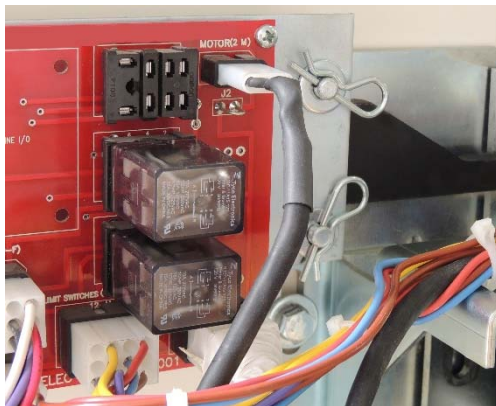
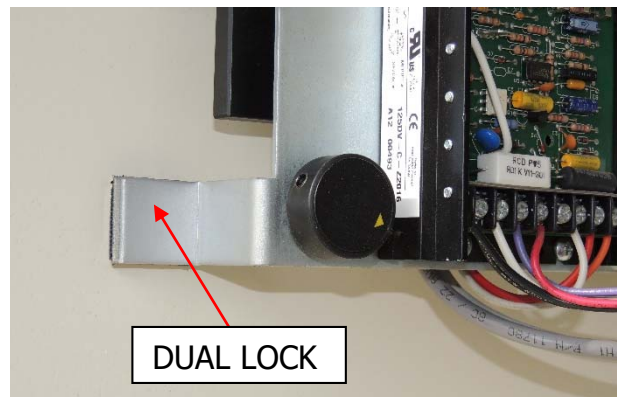

FIGURE 13
FIGURE 14
13. The **Logic Board** must be attached on the upper two pins located on the left hand side of the mechanism assembly. It is secured with the two hairpins located in the pin holes (Figure 13). The feet have **Dual Lock** attached and the protective covering must be removed and the feet can be pressed against the housing to secure the board. The dual lock should be allowed to fasten to the housing for twenty-four hours for maximum holding power (Figure 14). Once attached, the board can be removed by pulling the two pins and pulling the dual lock apart. To re-apply, set the board over the pins and push the dual lock together until it snaps. Re-apply the pins.